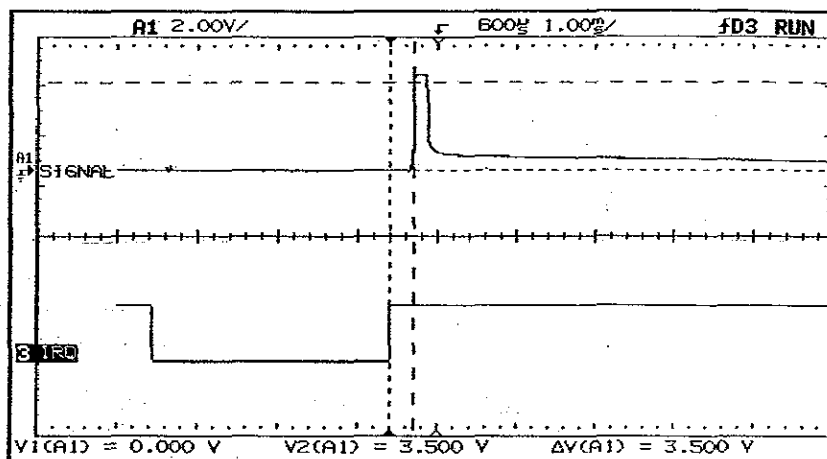

Figure 75
12. Verify that after $\approx 300\mu\text{s}$ from the rising edge of TP4, there is a $\approx 180\mu\text{s}$ pulse $> 3.5\text{V}$ (see Figure 75).